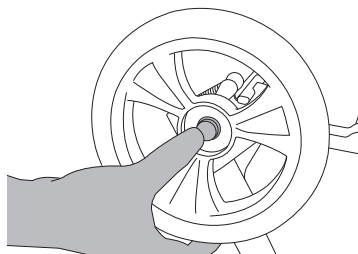

Figure 7
- Locate an axle cap and push it onto the axle lock until you hear and feel it snap completely into position. See Figure 7.